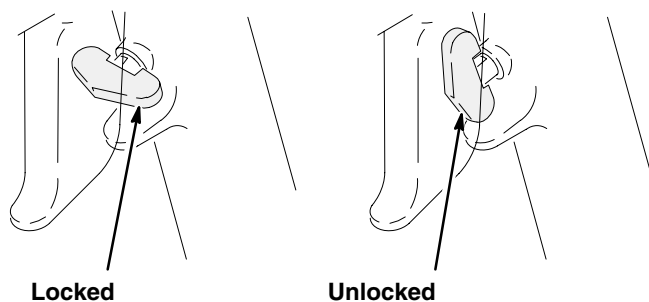

Fig. 2
1. If you are using one of the hand-held versions of the valve, lock the valve trigger safety by turning the latch to a right angle with the gun body. See Fig. 2.